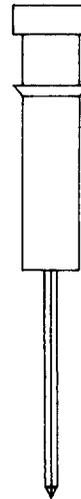

Fig. 7—KS-21722, L2 or L3, Socket
- (b) **KS-21722, L2:** The KS-21722, L2, socket (Fig. 7) is equipped with a square-wrap post. The socket is used in the voice frequency attenuator equipment in common systems.
- (c) **KS-21722, L3:** The KS-21722, L3, socket (Fig. 7) is equipped with a square-wrap post. The socket is used in the store frame for Traffic Service Position System (TSPS).